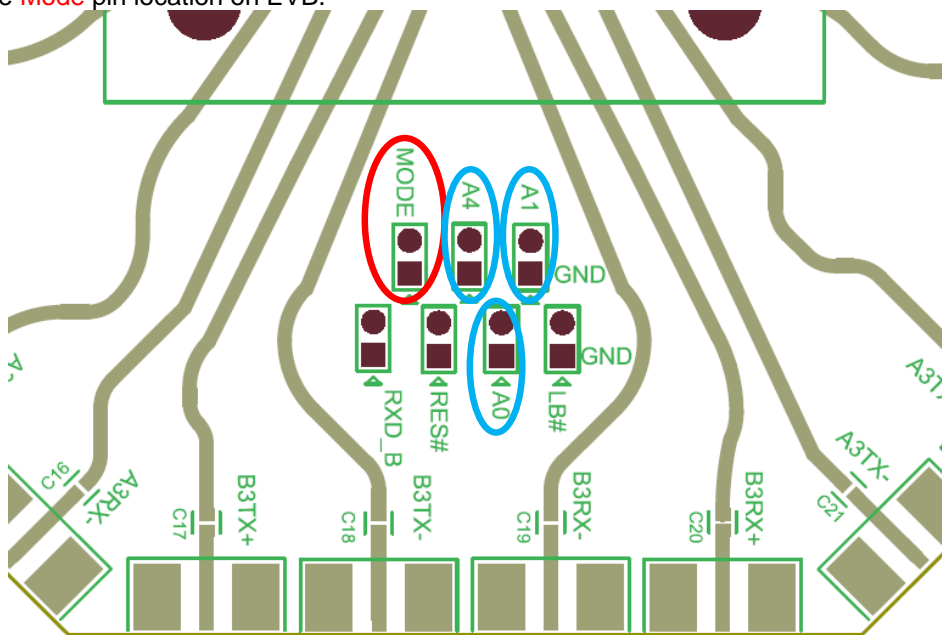

Figure4. MODE pin Header Location
PI2EQX5964ZFE provides I2C configuration control depending on the state of the MODE pin input (red circle in Figure4).
When **MODE** is set **LOW**, reprogramming of the control registers via I2C is allowed. MODE pin has internal 100K pull-up resistor. So it should be pull down by Jumper MODE pin externally. Figure4 shows the **Mode** pin location on EVB.
- The integrated I2C interfaces operate as a slave device, supporting standard rate operation of 100Kbps, with 7-bit addressing mode and LSB indication either a read or write operation as shown below. The address for a specific device is determined by **A0, A1 and A4** pins with internal **PULL-UP** resistors. So up to eight PI2EQX5964 devices can be connected to a single I2C bus. Figure4 shows A4, A1 and A0 pin header location in **Blue** circle.